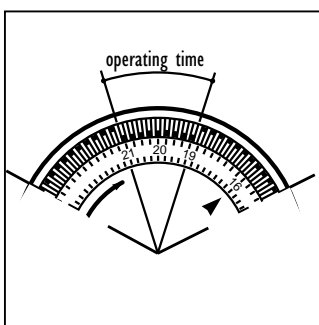

Fig.6
- 1) Set the operating times by pushing in the notches on the dial corresponding to the period required (each notch represents 15 mins.) (fig.6).